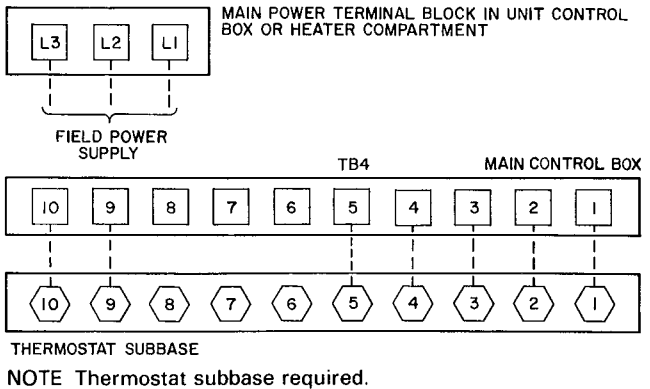

**Fig. 4 — Base Unit Dimensions**
9. Using 4 no. 10-1/2 screws from envelope in control assembly junction box, mount enthalpy control assembly to inside of economizer hood side panel nearest condenser section (Fig. 4).
**Exhaust Air Hood Installation** — The optional power exhaust package hood damper assemblies and required sheet metal screws are shipped in the compartment at right of indoor air fan motor compartment. Using screws provided, install a hood damper assembly over each exhaust air opening as shown in Fig. 4. Power exhaust is applied only to economizer units using bottom duct connections. Exhaust fan and motor assembly is factory wired and adjusted. Refer to Service, Power Exhaust Air Fan Adjustment if required.
**Condensate Drains** — See Fig. 4 for drain locations. Condensate drain is open to atmosphere and must be trapped. Install a trapped drain line at connection to be used. Trap must be at least 3 in. deep and made of flexible material or be installed to prevent freeze-up.
Install conduit connector in unit basepan or side panel openings provided as shown in Fig. 4. Route power lines thru connector to terminal connections in control box as shown in Fig. 8, 9 and 10.